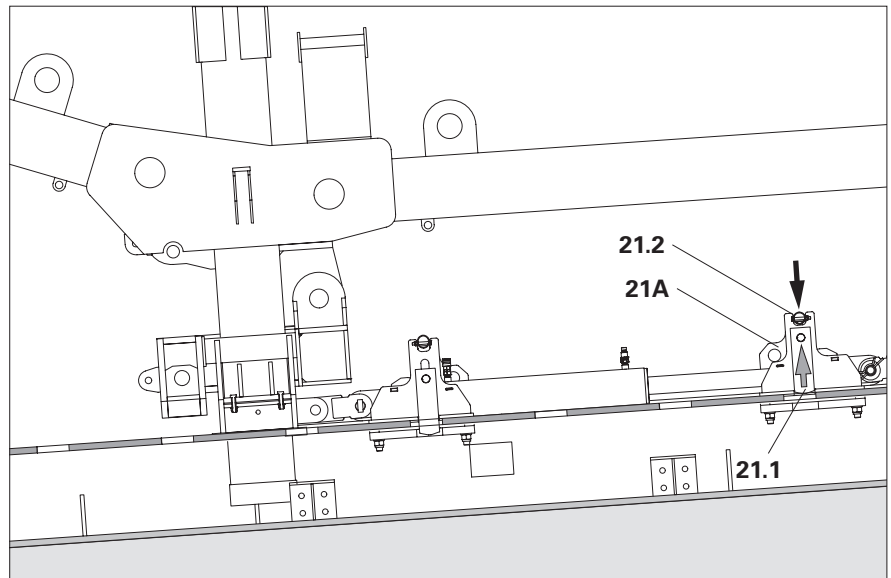

Fig. C1.05
4. Press the release lever (**21.2**) of the drive catch head (**21A**) downwards, thereby lifting the locking plate (**21.1**). (Fig. C1.05)